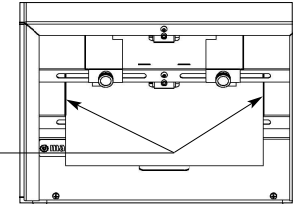

Figure 6
2. Position paper guides so that side-to-side movement will be no more than 1/32". NOTE: The guides should not pinch the stock. Inaccurate feeding could result if too tight (Fig. 6).